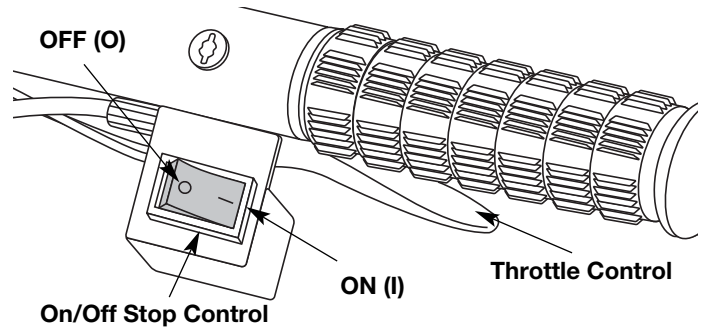

Fig. 6
2. Make sure the On/Off Stop Control in the **ON [I]** position (Fig. 6).